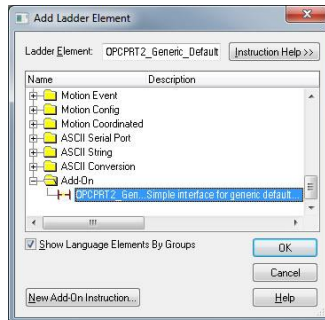

Figure 43: Add Generic Default Add-On Instruction
- 8) Select the generic default I/O add-on instruction in the Add-On folder. Refer to Figure 43.